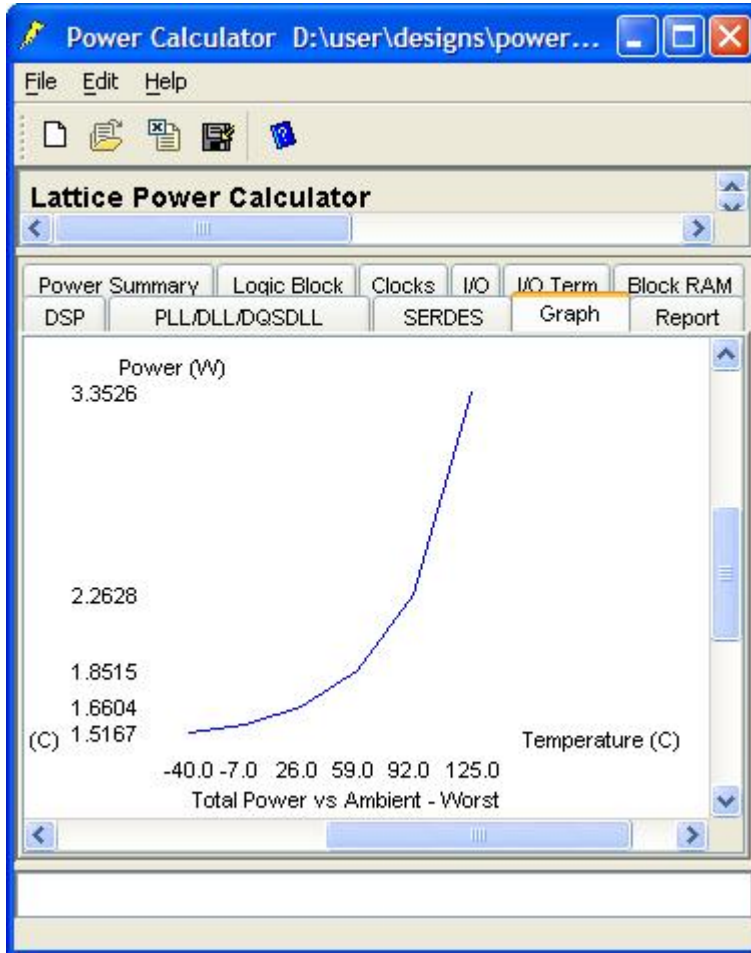

Fig. 3: Power dissipation as a function of ambient temperature
The graph in fig. 3 shows the relationship of power dissipation and ambient temperature. This example is based on the ECP2M-20 in BGA256 package. The design uses 16 k LUTs and 10 k registers, 40 memory blocks, 6 sysDSP blocks, 4PLLs, 2 DLLs and 4 SERDES channels. The I/Os use 40 LVDS outputs, 40 CMOS outputs with a driver strength of 4 mA and a bidirectional 32 bit bus in LVCMOS3.3. The clock frequency is set to 125 MHz, and the activity factor (AF) is 20 %, which is a good value for “typical” applications.